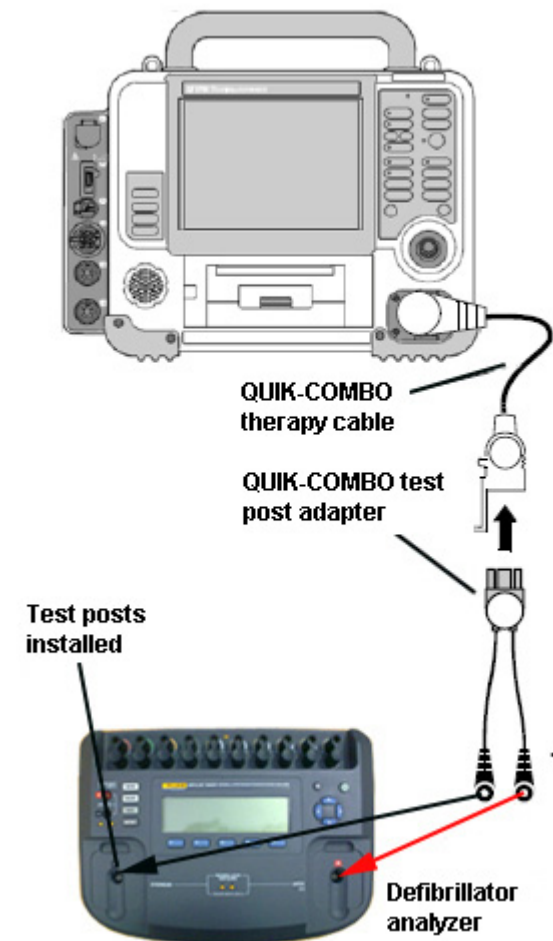

Figure 5.40—QUIK-COMBO delivered energy test setup
1. Connect the therapy cable between the device and defibrillator analyzer as shown in Figure 5.40, using the appropriate adapters.